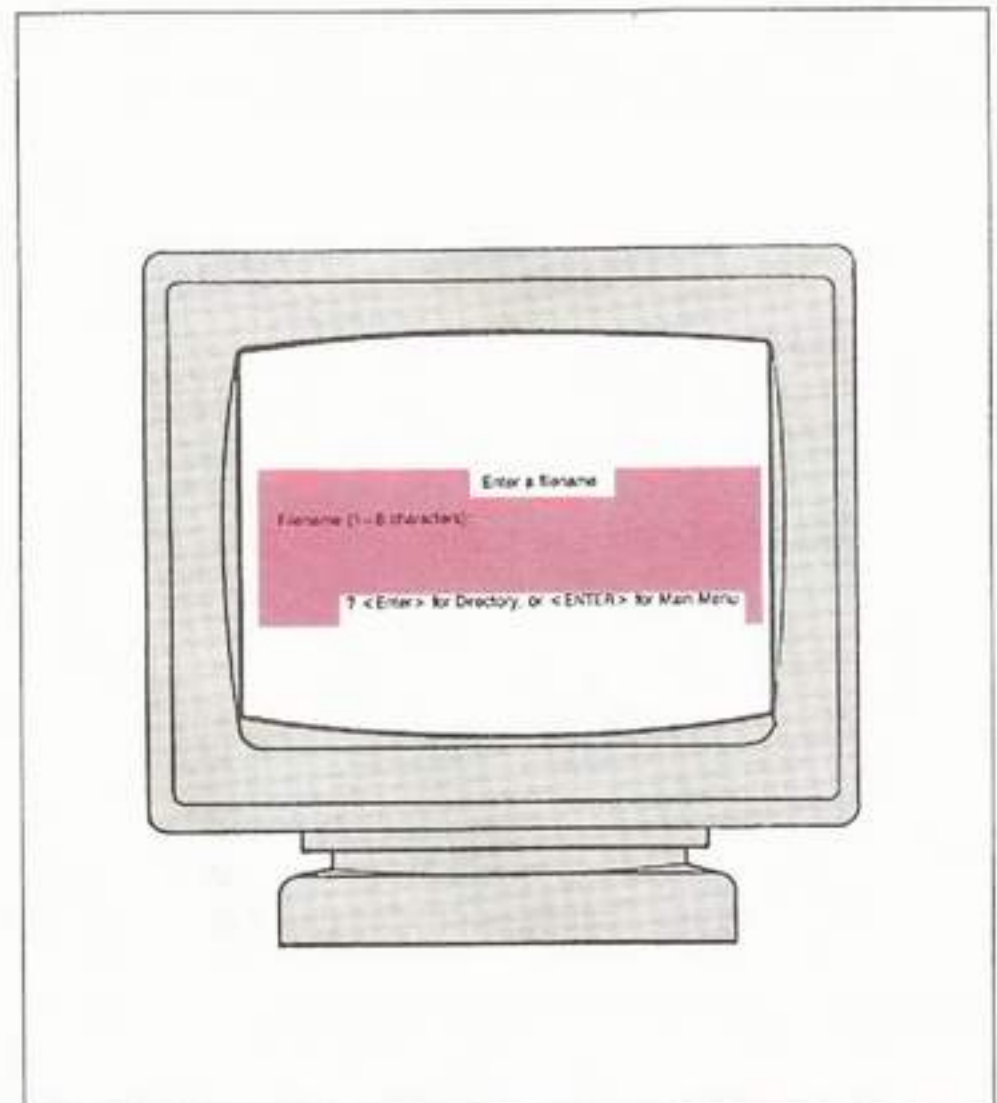

Fig. 48: The Filename Window
- ___ e. At the "Verification" window, answer "Y". *Note: The "Filename" window appears, as shown in Fig. 48.*